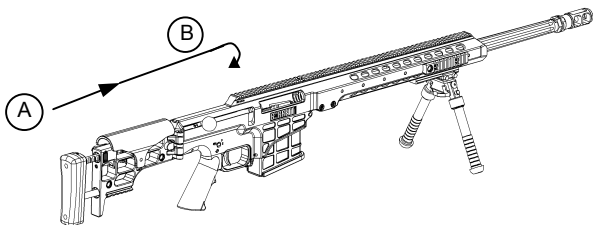

Figure 6, Step A and B.
4. Push the bolt handle forward (*Figure 6, Step A.*) quickly and firmly to load a cartridge into the chamber. Rotate the bolt handle down (*Figure 6, Step B*), to close the firing chamber.